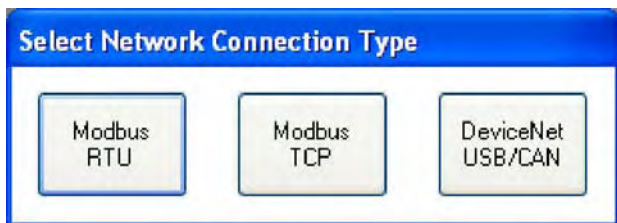

Figure 2-Network Connection
The Modbus assembly allows the master controller to read setpoints and real-time data in any order independently of the published memory map. To configure the assemblies, use Solutions to write parameters MBAssem500WrdXX and MBAssem501WrdXX. The parameters that can be entered into MBAssem500WrdXX and MBAssem501WrdXX can be found in Table 13 and Table 14. The value entered into each parameter is the Modbus address of the parameter that the user desires to view. Figure 2 show a Modbus assembly configured for 23,24,25,26 which if the user reads 0x500 for 4 word the assembly will return Vca, Vbc, Vab, and Average Voltage respectively.
Step 2. Select **Modbus RTU** from the **Select Network Connection Type** dialog box (see Figure 2)